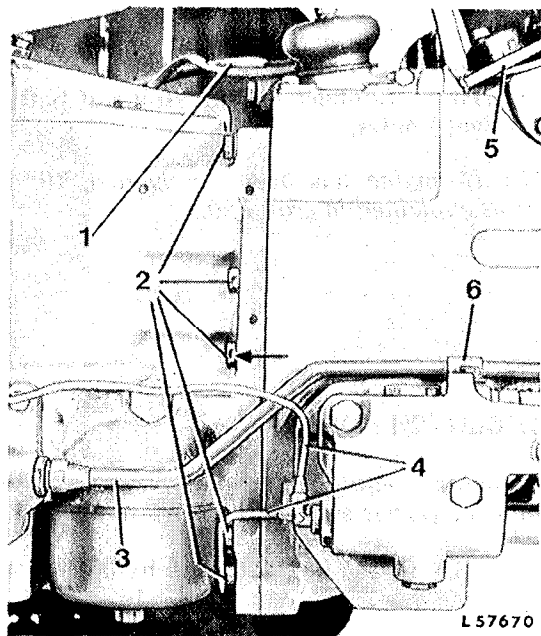

Fig. 6 — Separating between Clutch Housing and Transmission Case, R. H. Side
Disconnect hydraulic oil reservoir leak-off and bleed line (see 5, fig. 6) at transmission shift cover.
Remove clamp (see 6, fig. 6) and hydraulic pump pressure line 3.
Disconnect brake lines (see 4, fig. 6) at brake valve.
Remove cap screws 2 (figs. 6 and 7) securing clutch housing to transmission case, and separate clutch housing from transmission case.
*NOTE: Before installing the third (from top) retaining screw at right-hand side of clutch housing (see arrow, fig. 6), coat screw with oil-resistant sealant.*